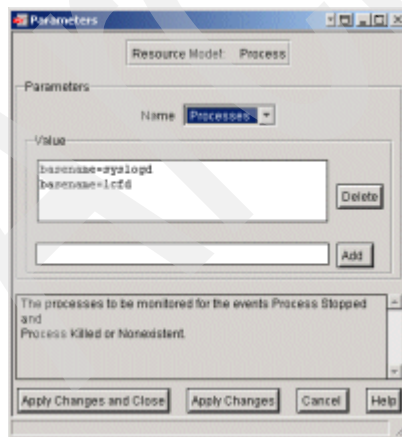

Figure 9-103 Parameters window for application status monitoring of netman process
4. Select **Parameters**. The Parameters window opens as shown in Figure 9-103.